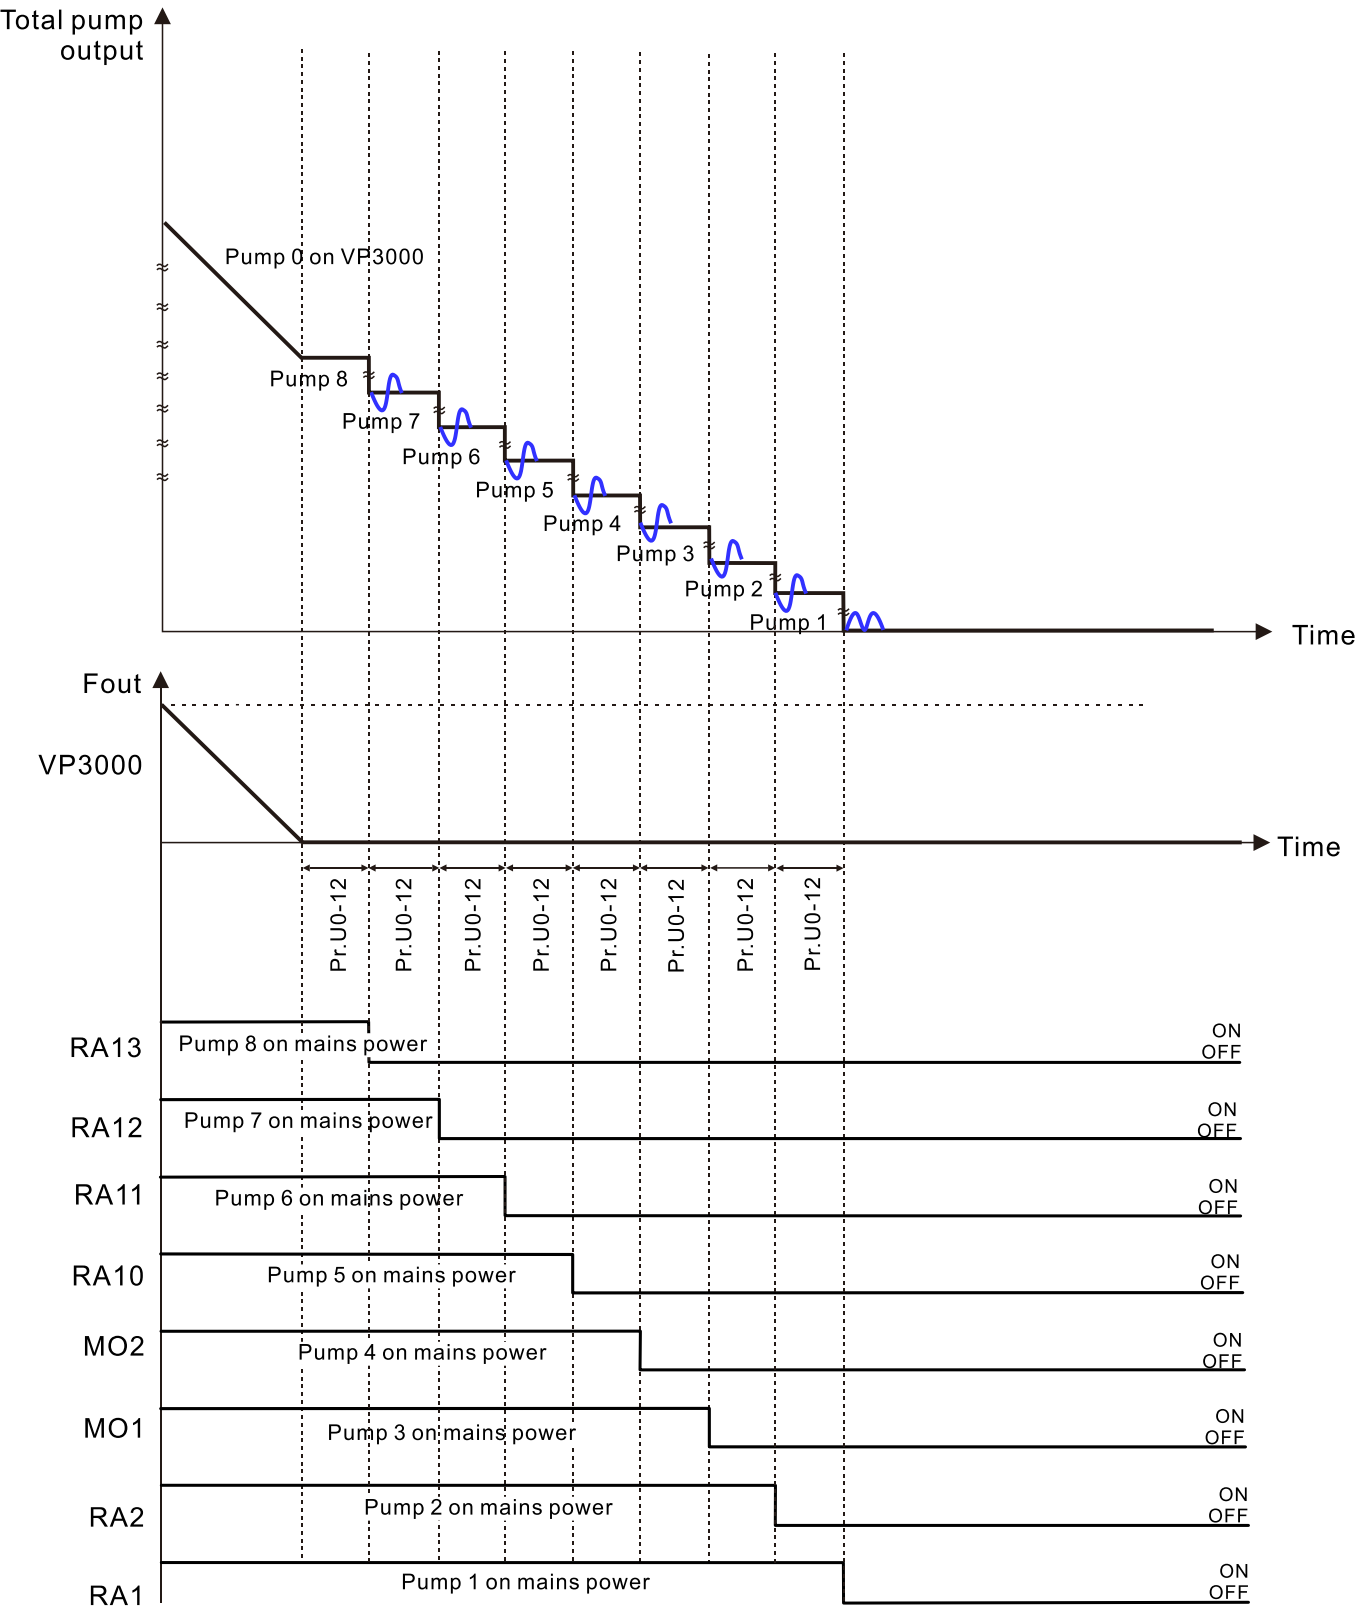

Figure 12 QTY Control Terminal Sequence (Pressure Decreasing)
-  After the function is enabled, when the demand of water consumption decreases and the master pump output frequency is lower than or equal to the lower limit and lasts for the time of Pr.U0-12 (AUX Pump Deactive Check Time), disconnect the output terminal, and disconnect the auxiliary pump from the mains power. When the demand remains unchanged for the time of Pr.U0-12, disconnect the output terminal, and disconnect another auxiliary pump from the mains until all the auxiliary pumps are OFF (refer to Figure 12).